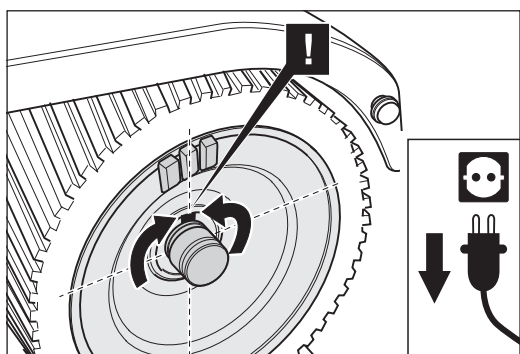

Fig. 49 Turn the sanding drum in such a way that the groove is pointing upwards, to ensure that the parallel key is not lost. Similar to figure.
- 9 Turn the sanding drum in such a way that the parallel key is pointing upwards to ensure that the parallel key is not lost (Fig. 49). Now pull the sanding drum out sideways out of the housing.